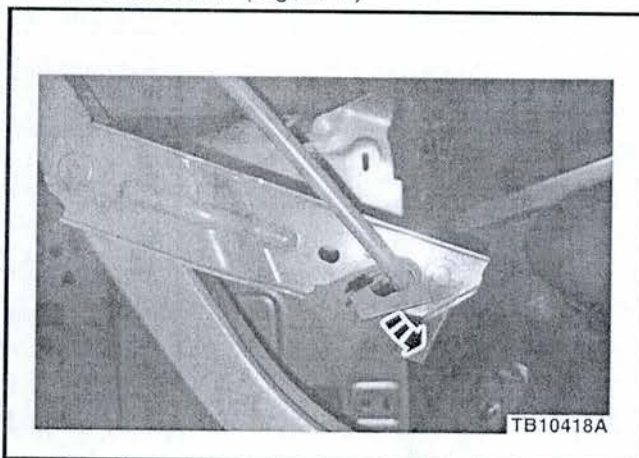

Figure 1 - Article 13-5-18
1. Remove two (2) push-pin fasteners securing the luggage compartment lid striker trim cover and remove the cover.
3. Remove four (4) cargo net fasteners and two (2) push-pin fasteners securing the luggage compartment trim and position trim aside on right and left sides.
6. Release clip securing the luggage compartment lid torsion bar. (Figure 1)